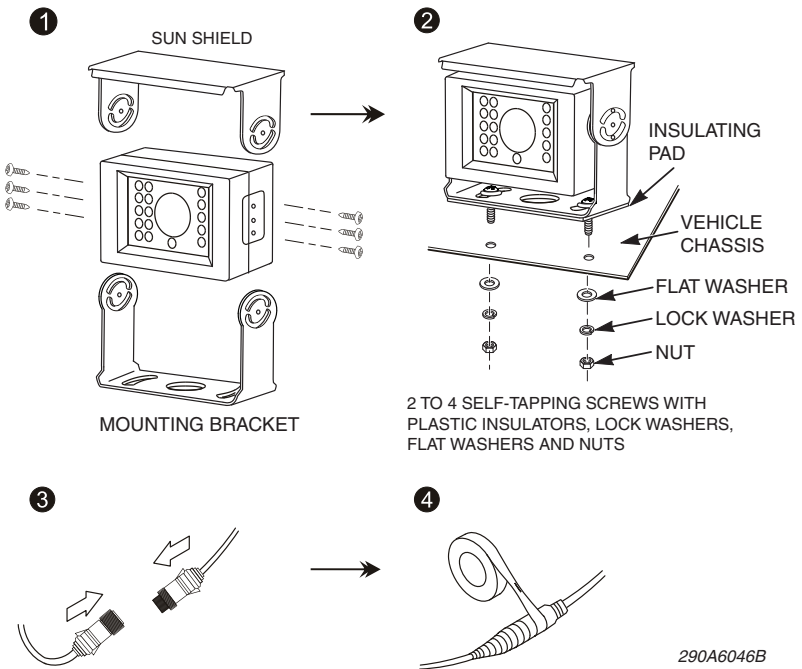

Figure 1. Rear-view camera installation
2. Use the Allen wrench to remove the sun shield and camera from the mounting bracket so that the bracket can be used as a template for marking drill-hole locations (Figure 1).
1. Use the camera mounting bracket as a guide to mark the locations of two to four mounting holes to be drilled into the vehicle (Figure 1 on page 9). These locations should lie in the two channels on either side of the circular hole in the center of the bracket.